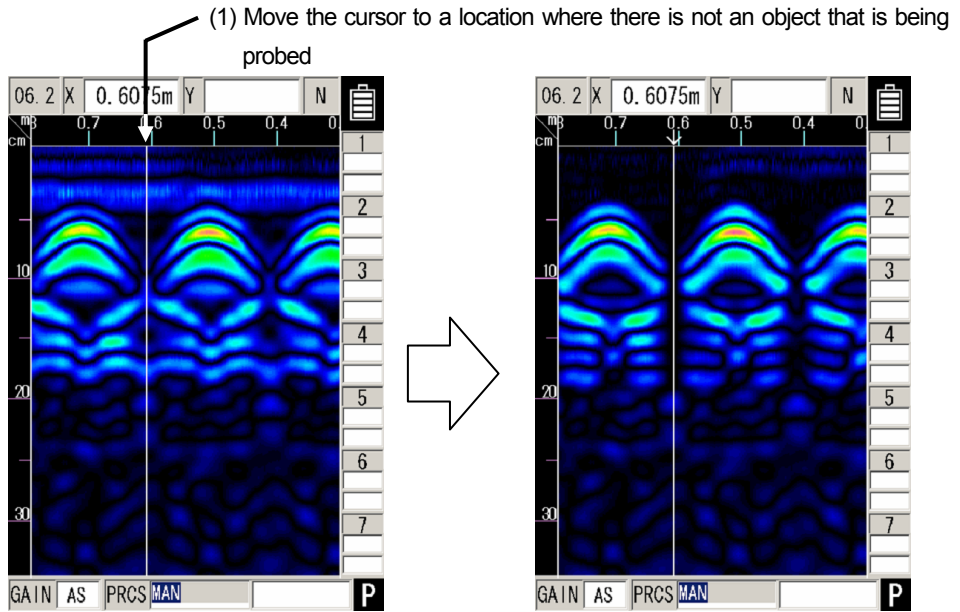

Figure 3-17 Display before/after Manual Surface Wave Processing
Manual surface wave processing is used when the effect of reflection near the concrete surface on the scan result can not be completely removed. (See Figure 3-17 A.)
- (2) Set **MAN** (Manual) using the cursor keys **▲▼** .
- (3) Use the cursor keys **◀▶** to move the cursor to a location where there is not a object to be probed in the scan results. (See Figure 3-17 A)
- (4) Press the **[5] ENTER** key. Manual surface wave processing will be performed while the reflected wave at the cursor position is used as the surface wave. At this time, the marker **↓** is displayed at the previous cursor position. (See Figure 3-17 B.)
- (5) To end the image processing mode, press the **[6] PROC** key again.